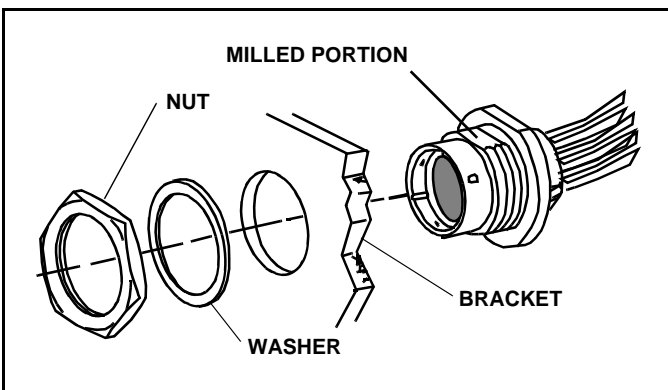

Figure 1-7
22. Mount the plug in the mounting bracket from the vehicle back side. Position the plug with the milled end to the top. Place the washer over the end of the plug and secure with the large nut. See Figure 1-7.